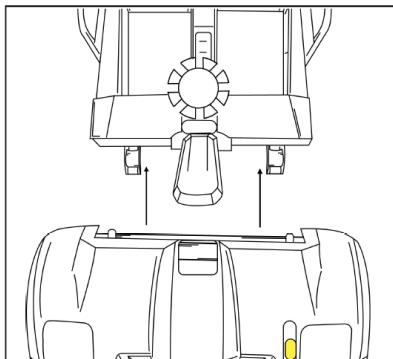

Figure 20: Drivetrain Alignment
1. Line up the frame and the drivetrain. See *Figure 20*.